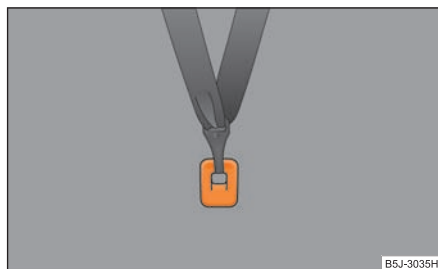

Fig. 168 Rear seat: Top Tether
On vehicles with divided rear seats* the seats are equipped with the attachment system "Top Tether" for enhancing the safety of the children when being transported ⇒ fig. 168.
- Attach the child seats with the "Top Tether" system only to the points provided for this purpose ⇒ fig. 168.